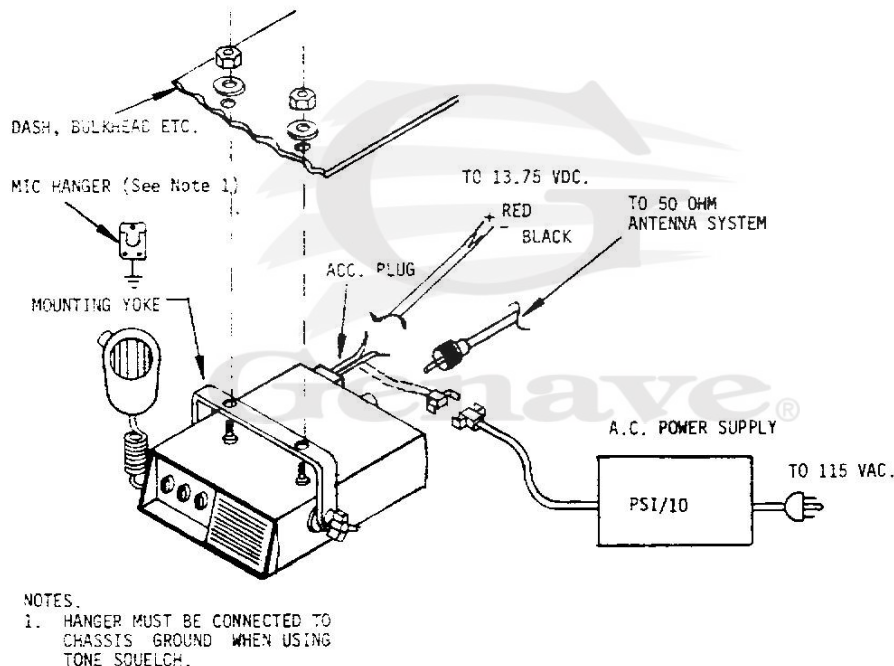

Figure 2-1. Typical Installation.
1. Refer to Figure 2-1. If mounting yoke has been installed on transceiver, remove yoke temporarily. For fixed operation, yoke may be repositioned on bottom side of unit to function as a supporting stand. For either fixed or mobile operation, the yoke may be secured in the desired location (under dash or shelf, on console or desk top, or overhead, etc.) with appropriate screws or bolts through two holes provided in the mounting yoke.